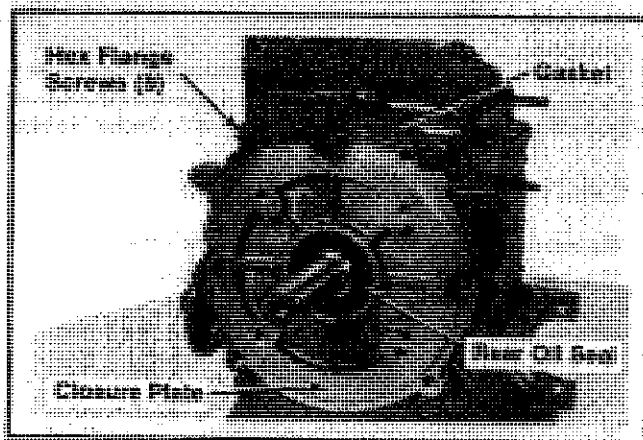

Figure 9-28. Removing Closure Plate.
1. Remove the hex flange screws, closure plate, and gasket. Refer to Figure 9-28.